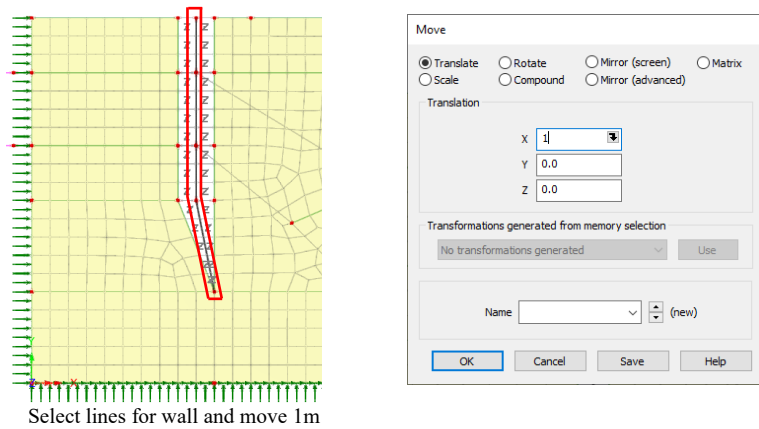

Figure 61: Close gap between wall and soil
- Now select the four lines representing the wall and click on **Geometry > Line > Move....** Enter a distance of **1** in the X direction and click **OK** (figure 61).